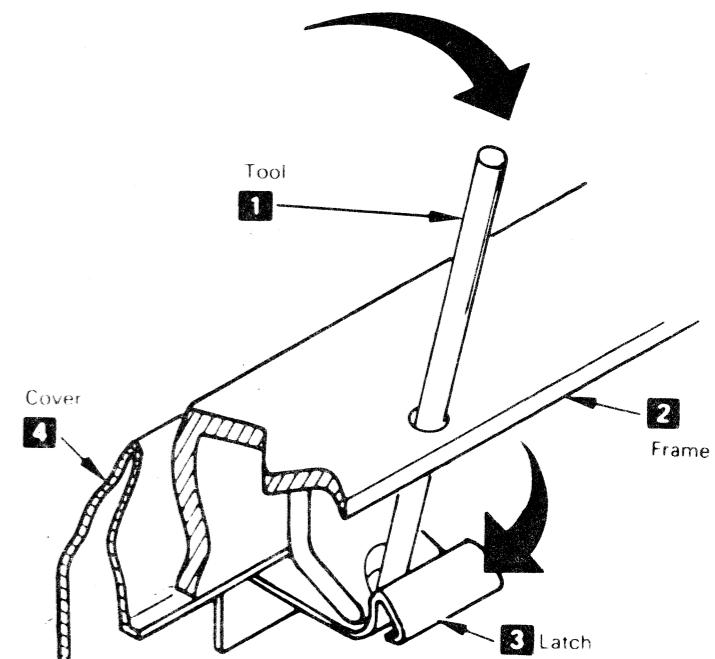

Figure 1. Cover Removal
- 3. See Figure 1. To remove the front and rear covers **4**, insert a tool (screwdriver) **1** into the holes in top of the front and rear frames **2**, use a sidewise and gentle downward pressure to unlatch the two latch springs **3** (one at a time) and pull the cover outward.